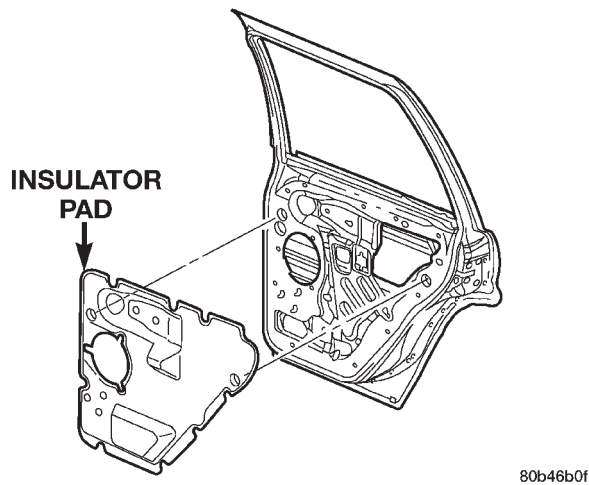

Fig. 36 Rear Door Waterdam
- (1) Remove door trim panel.
- (2) Peel the waterdam from door.
- (3) Route all harnesses and linkage rods through waterdam as necessary.
- (4) Separate waterdam from door (Fig. 36).